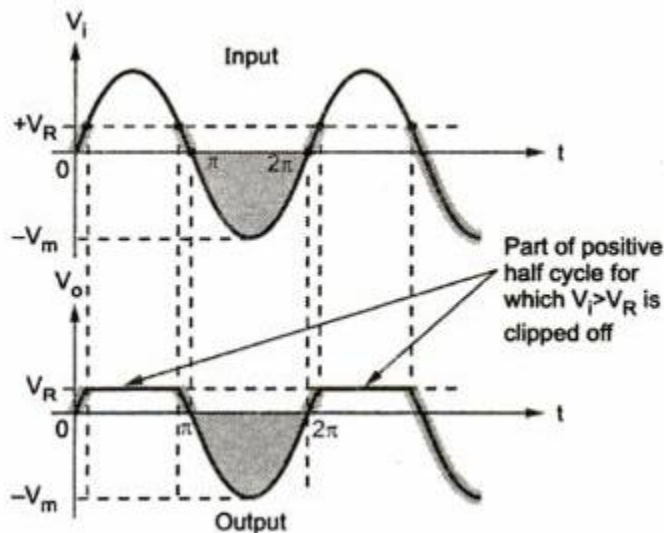

Fig. 1.52 Waveforms for clipping above V_R
- The input and output waveforms for such a clipper are shown in the Fig. 1.52.